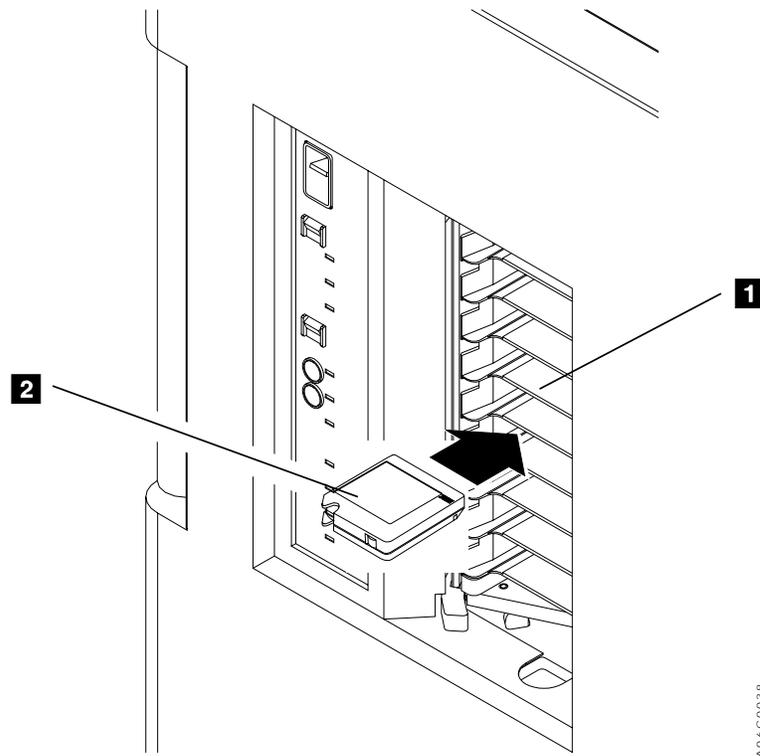
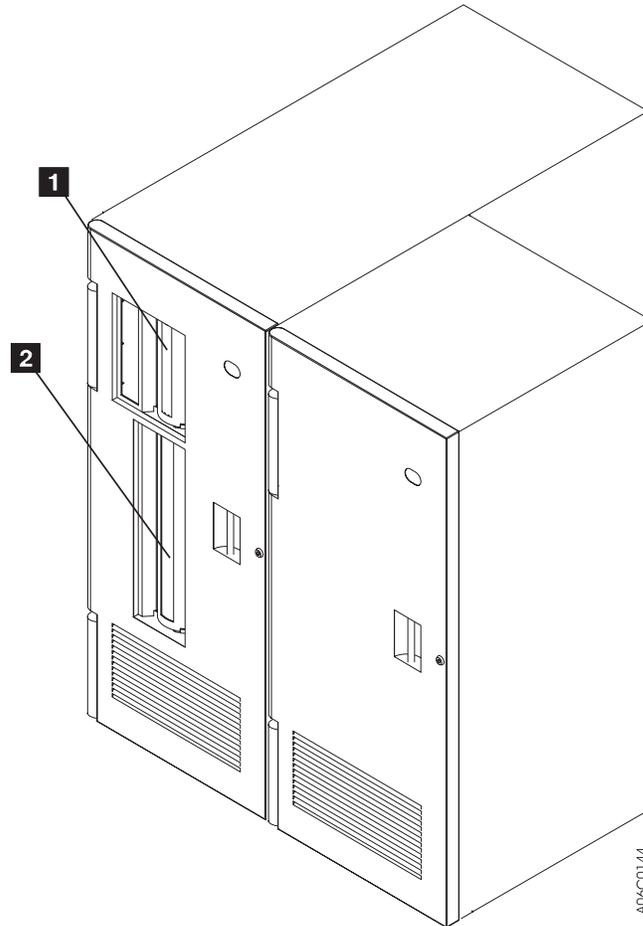

Figure 34. Inserting Cartridges in the Convenience Input/Output Station
Figure 35. Optional 30-Cell Input/Output Station
Note: Figure 34 on page 79 shows the ten-cell input/output station. Figure 35 on page 81 shows the optional 30-cell input/output station. If the 30-cell input/output station is installed, the operation remains the same, but there are two operator doors. The upper operator door **1** provides access to the upper ten cells. The lower operator door **2** provides access to the lower 20 cells. (Both doors open together.)
2. Insert the cartridges (**2** in Figure 34 on page 79) that you want to add to the library into the Convenience Input/Output Station **1** with the cut-off corner (and leader block) to the left and the external label facing to the **inside** of the Convenience Input/Output Station. Shut the Convenience Input/Output Station door.